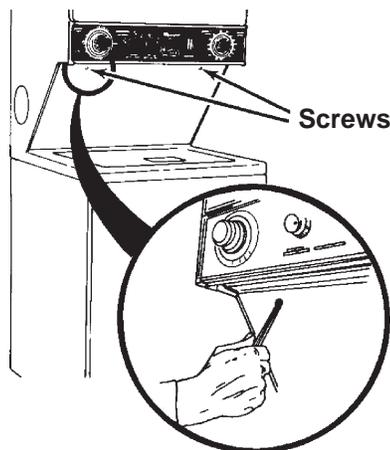

Fig. 5-5
1. Remove the two screws securing the transition panel to the unit. (Fig. 5-5)